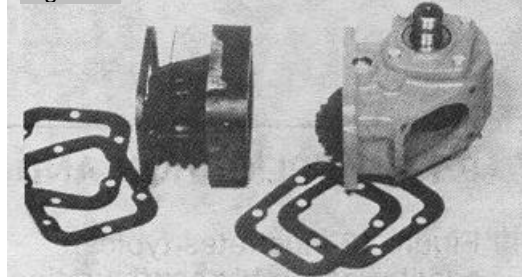

Fig. 18
5. Remount the adapter assembly, all gaskets and the P.T.O. to the transmission in their respective sequence. (See Fig.18.)